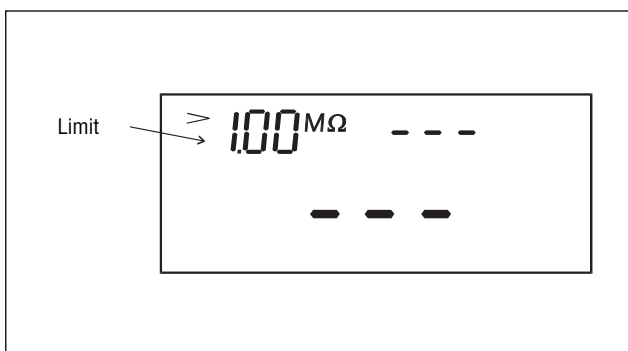

Fig.7.13
- Connect COMMANDER 1 to UNITEST MACHINEmaster, switch on measurement appliance, set switch Measurement Function to position  $R_{INS}$  500V (9). See Fig. 7.13.
- Connect COMMANDER 2 to UNITEST MACHINEmaster, switch on appliance and set switch Measurement Function to position  $R_{INS}$  500 V (9). See Figure 7.13.